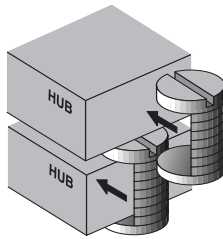

Figure 2-10 Using Desk Stands
- 2** Slide additional stands into the slots on top of each stand on the first hub as shown in Figure 2-10.